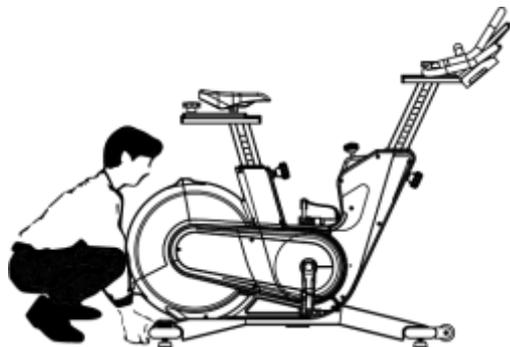

figure 1
- 3) Crouched down as shown in figure 1, use both your hands to slowly lift up the rear stabilizer.